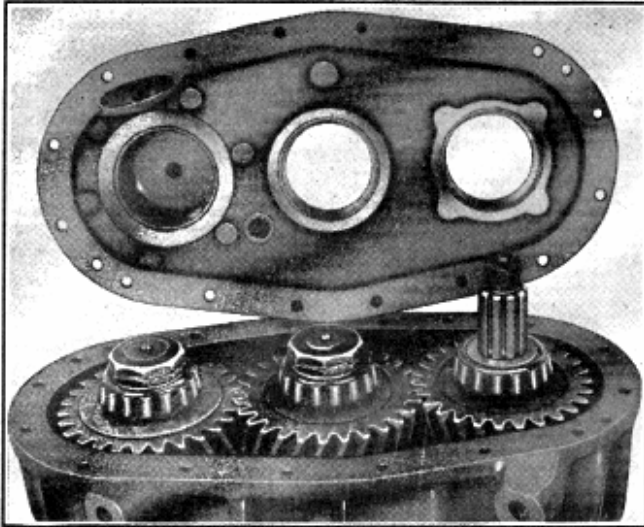

Fig. 3—Transfer Case with Rear Cover Removed, Showing Gears and Shafts
7. When the cap screws have been removed, the cover assembly (5) may be removed from the case (1), as illustrated in Fig. 3.
8. The main shaft (53) with bearings (51) and main drive gear (52), the idler shaft (59) with bearings (57), idler gear (58) and speedometer gear (60), and the driven shaft (64) with bearings (62-65) and driven gear (63) can now be lifted out of the case, (1).